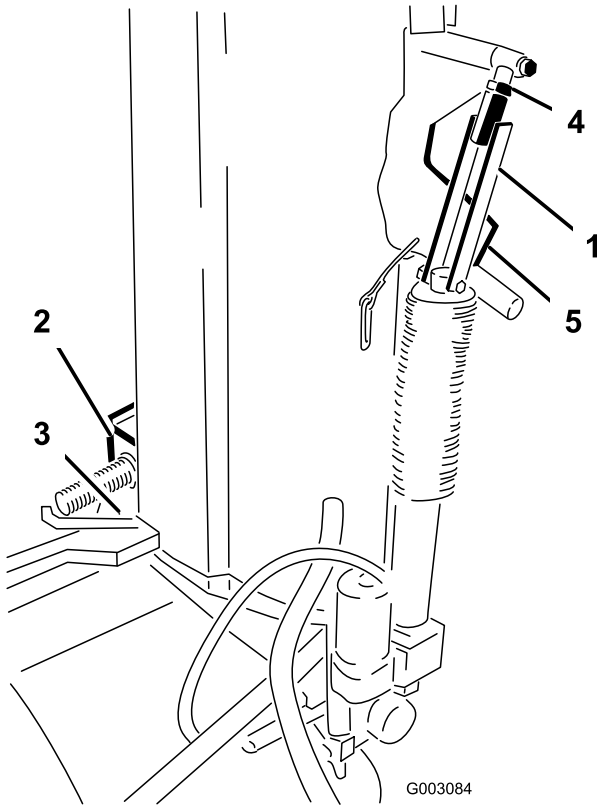

Figure 12
makes contact with the center boom contact pad (Figure 12).
10. Measure the length of the Actuator and adjustment link . It should be 30-1/8 inch, $\pm 1/16$ inch from the center of the actuator assembly bolt to the center of the actuator link bolt (Figure 12).
12. Install actuator link to actuator arm using the bolt and locknut removed previously. Tighten the jam nut to secure the assembly and ensure the link rests square on the actuator link stop (Figure 12).